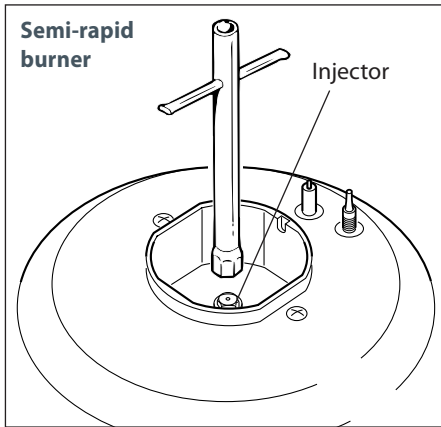

Fig. 14a
- 2 Using a spanner, remove the injectors (Figs.14a,14b,14c) and replace them with the ones according to the gas type (see the 'Table for the choice of injectors').